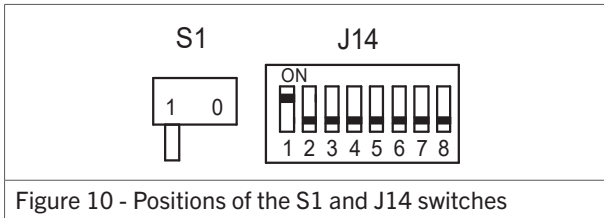

Figure 10 - Positions of the S1 and J14 switches
- a. Set the S1 and J14 switches on the control unit as follows (figure 10):